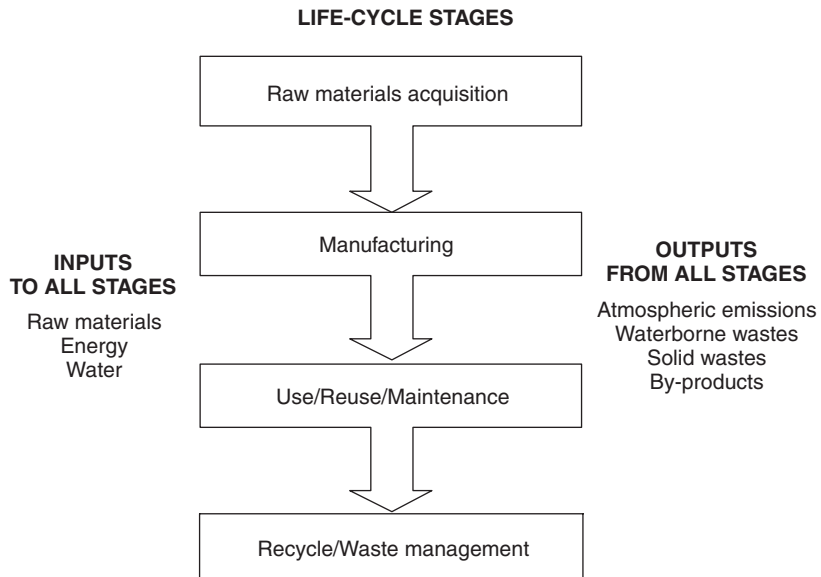

Figure 18.3
LCA allows us to study the flows of materials, energy and water throughout the life of a product (or a process such as fossil fuel combustion) as it now exists. It examines the environmental impacts at each point in its life, see Table 18.1 Once flows and impacts are understood, then both P2 and DfE can more effectively come into play. LCA can be useful for examining a piece of paper, plastic bag, car, or a food item such as an apple. ▪ Look at the four life-cycle stages (Figure 18.3). (1) The impacts of acquiring the raw materials for the product. (2) The impacts of manufacturing it. (3) The impacts of using (reusing) and maintaining it. (4) The impacts of recycling or otherwise managing the product at the end of its useful life. For *each* of the four stages we analyze: